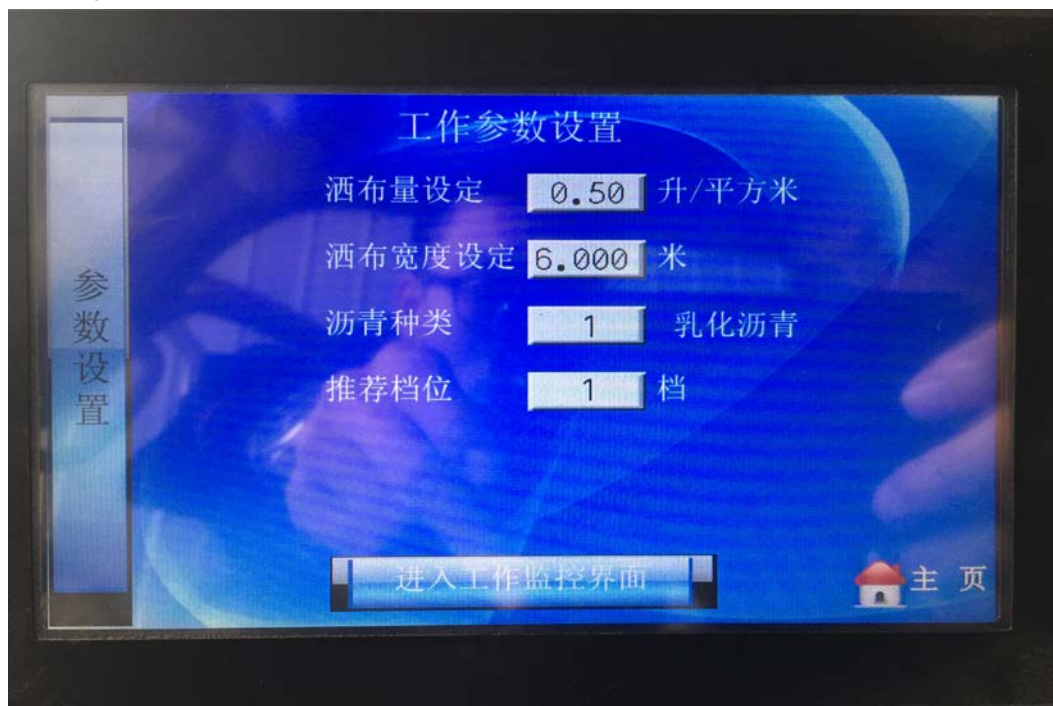

Fig. 27 Front console working parameter setting interface
②Click the working parameter setting shortcut key “SCHEME” to enter the working parameter setting interface, and click the setting button shown in Figure 27; according to the construction needs, set the amount of asphalt spray (asphalt pump speed), the asphalt spray width (the number of open nozzles), the asphalt type and the spray starting distance; after setting is complete, click the "Enter Work Monitoring Interface" to enter the work monitoring interface.